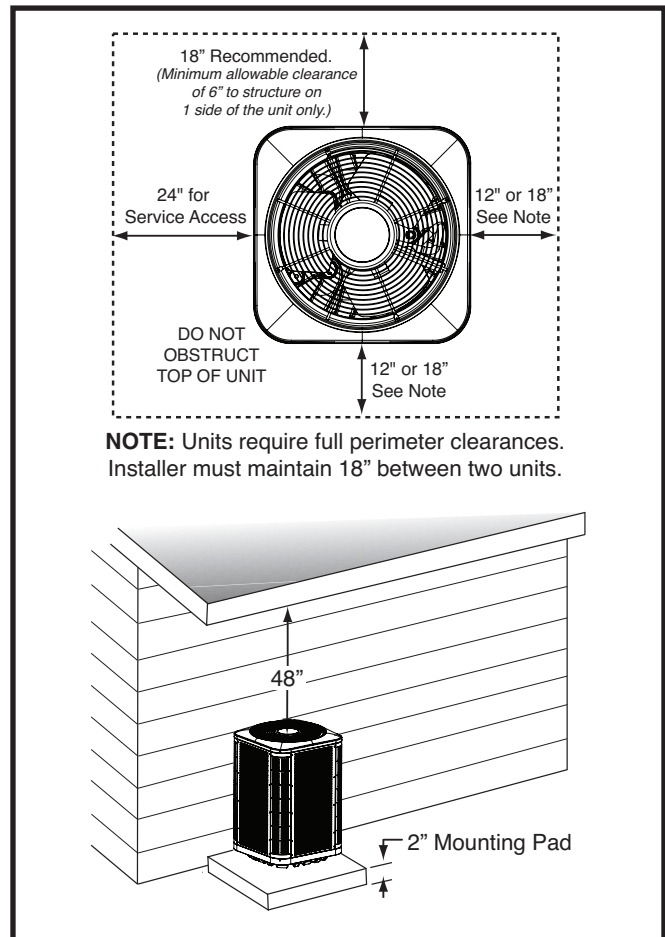

Figure 1. Clearance Requirements
- Sufficient clearance for unobstructed airflow through the outdoor coil must be maintained in order to achieve rated performance. See Figure 1 for minimum clearances to obstructions.
- Overhead obstructions (Figure 1), poorly ventilated areas, and areas subject to accumulation of debris should be avoided.